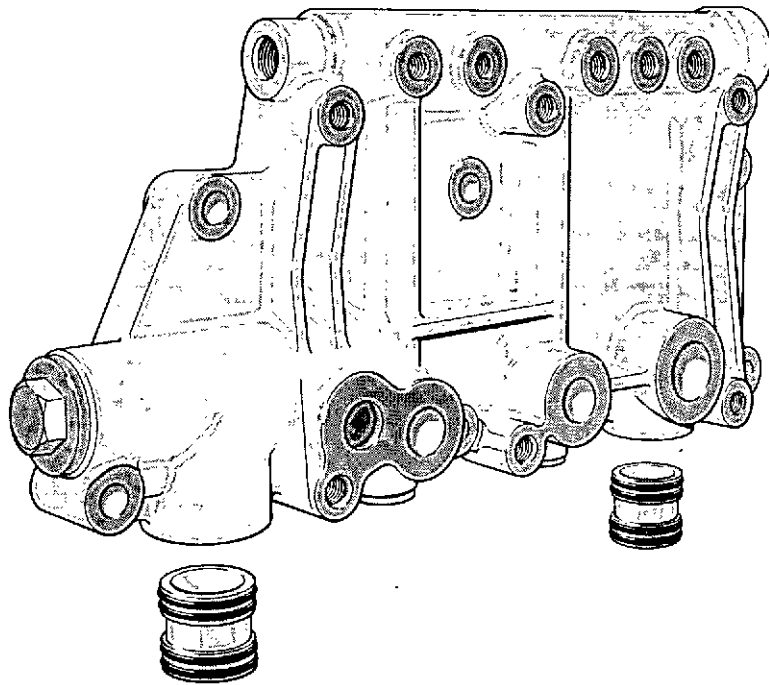

Fig. 26 Heat exchanger mounting adaptor
- 143 Using clean engine oil, lubricate the two bobbin locations in the base of the heat exchanger adaptor assembly. Fit new 'O' ring seals to each of the bobbins and press the bobbins into the recesses in the assembly, (fig. 26). Lightly oil the bobbin recesses in the sump adaptor, position the adaptor assembly alongside the crankcase side wall and press it downwards to locate the bobbins in the sump adaptor. Fit the six assembly retaining setbolts, with plain and spring washers, and tighten securely.